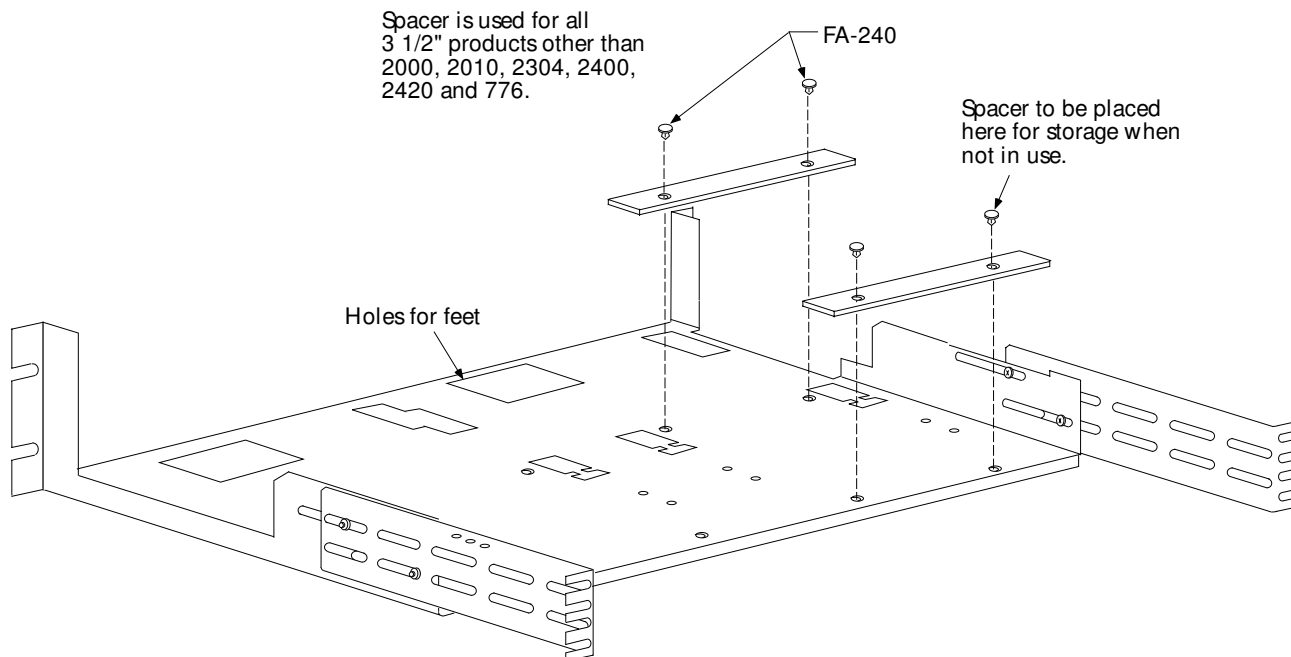

Figure 3
6. For all but the Models 2000, 2010, 2400, and 776, install the spacer as shown in Figure 3. The spacer is not used for these four models.